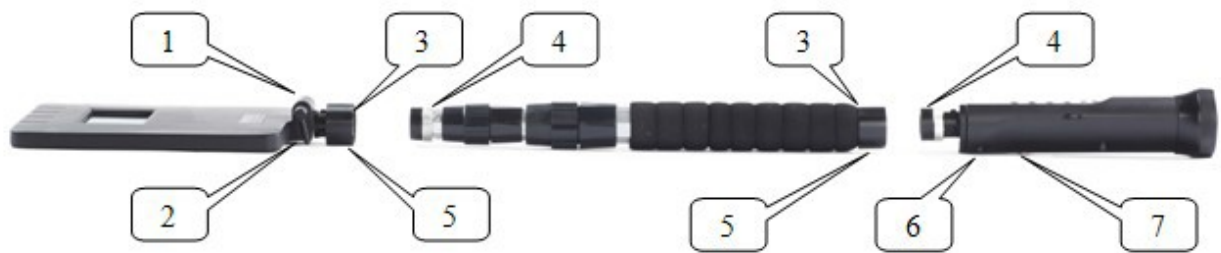

Figure 4, where
4.4. Knuckle joint of the replaceable antenna module with detachable connection (Figure 4) is used to fix the position of the antenna, for easy inspection and searching.
4.5. Detachable connections of replaceable antenna modules with remote control handle, and a removable telescopic rod allows the operator to easily turn the detector from the inspection device to a search one and back. Figure 4 shows the construction of the detachable junction of the detector's elements.
4.9. Headphones (1-16) are connected to the connector (7-4) on the remote control, the location of which is shown in Figure 4.